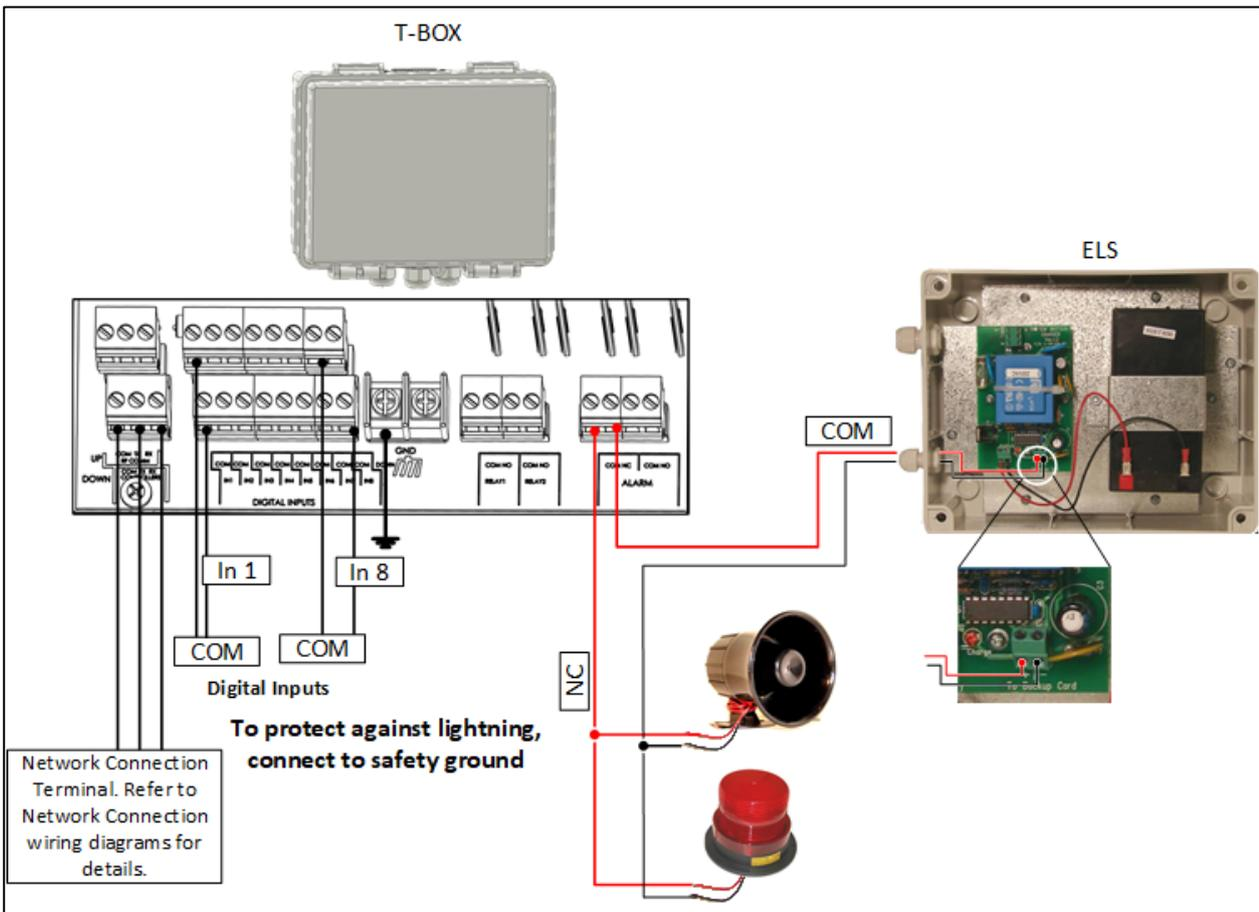

Figure 18: T-Box Wiring Diagram to ELS
If required, connect the T-Box to external devices and an ELS system (Figure 18).
2. Wire the devices as shown in Figure 18.